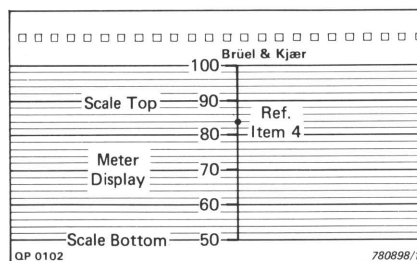

Fig.4.2. Calibrating the Type 2306 using Alternative method
2. Slide the RANGE SELECTOR of the meter to give the range 50 to 90 dB(A) and select 60 s L_{eq} on the FUNCTION SELECTOR.
3. Obtain a steady reading in the upper region of the display, by clapping the hands for example. As an example, suppose a reading of 84 dB(A) is obtained.
4. Adjust the pen position using the SENSITIVITY potentiometer of the 2306 so that it indicates the displayed value on the paper. (See Fig.4.2) The top of the meter display should correspond to the 2nd thick line from the top of the recording paper and the bottom of the display correspond to the bottom line on the paper.